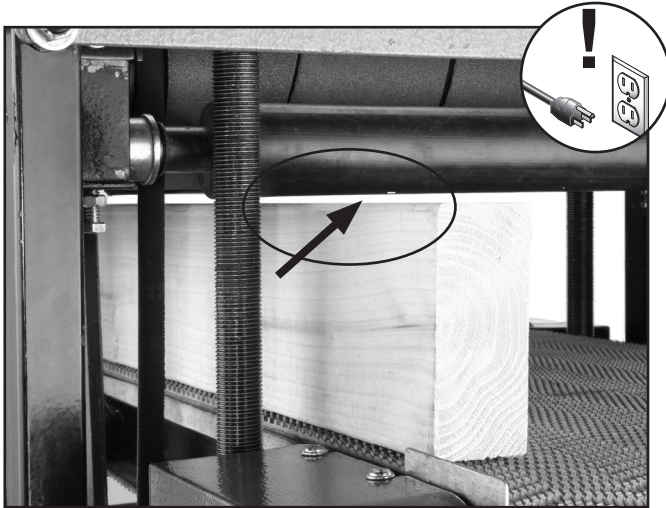

Figure 35. Gauge blocks below pressure rollers.
- Turn the crank handle three full rotations (counting from the point of actual table movement so handwheel freeplay does not affect your count) to lower the table so the gauge blocks are below the pressure rollers, as shown in **Figure 35**.